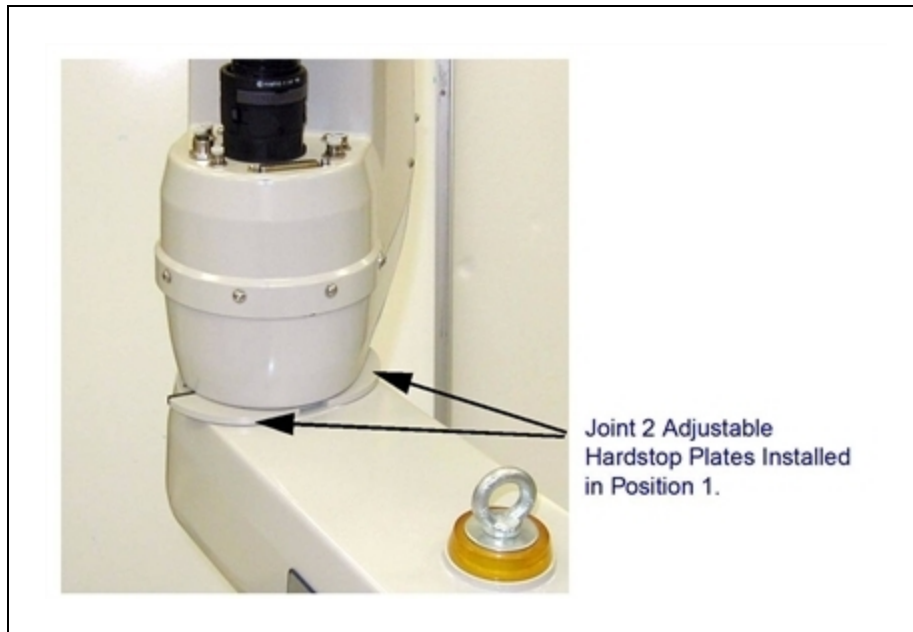
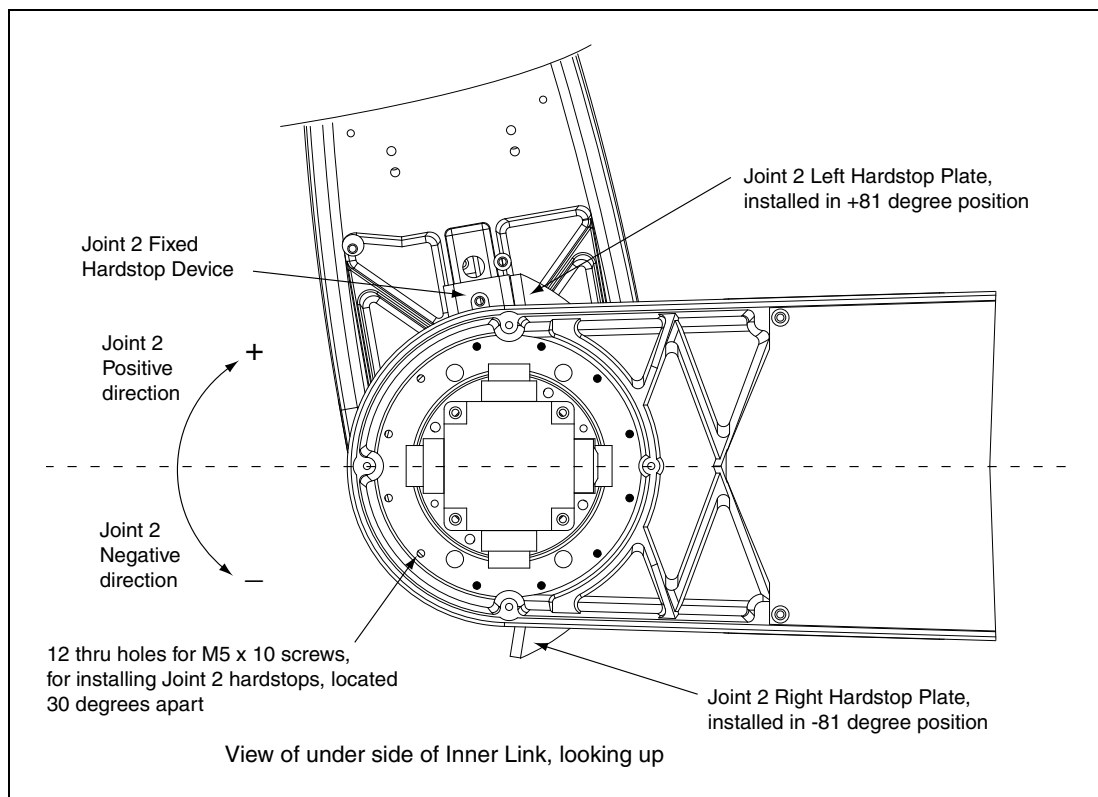

Figure 7-20. Joint 2 Adjustable Hardstop Locations
Figure 7-21. Screw Locations for Joint 2 Adjustable Hardstops
1. Slide the two adjustable hardstop plates into the space between inner and outer links. See Figure 7-20. Looking up at the inner link from underneath, align the holes in the plates with the holes in the inner link. See Figure 7-21.